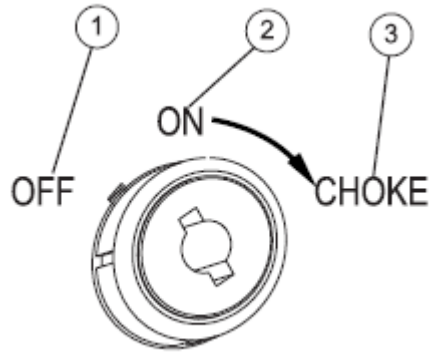

Figure-7 Switch (Example)
- * This controls the ON / OFF functions choke and fuel valve operation. **See Figure-7**
- * The “OFF” position (1) stops the engine and shuts off fuel flow.
- * The “ON” position (2) is for normal operation and to gradually reduce the use of the choke.
- * The “CHOKE” position (3) switches the fuel valve on to start the engine.